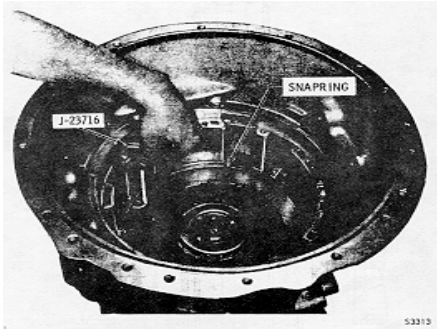

Fig. 7-22. Checking third clutch running clearance
(2) Install the third clutch backplate, aligning its tangs with those of the three clutch plates (Fig. 7-22). This plate is identified by the mark 2. Do not use a plate marked 1.
(3) Install the snapping that retains the backplate (Fig. 7-22). The snapping is identified by a green mark and is 0.155 to 0.157 inch (3.94 to 3.99 mm) thick. Position the snapping gap toward the top of the transmission housing.
(4) Using third clutch clearance gage J-23716, check the clutch running clearance. The thin end of the gage should pass between the snapping and the backplate; the thick end should not.